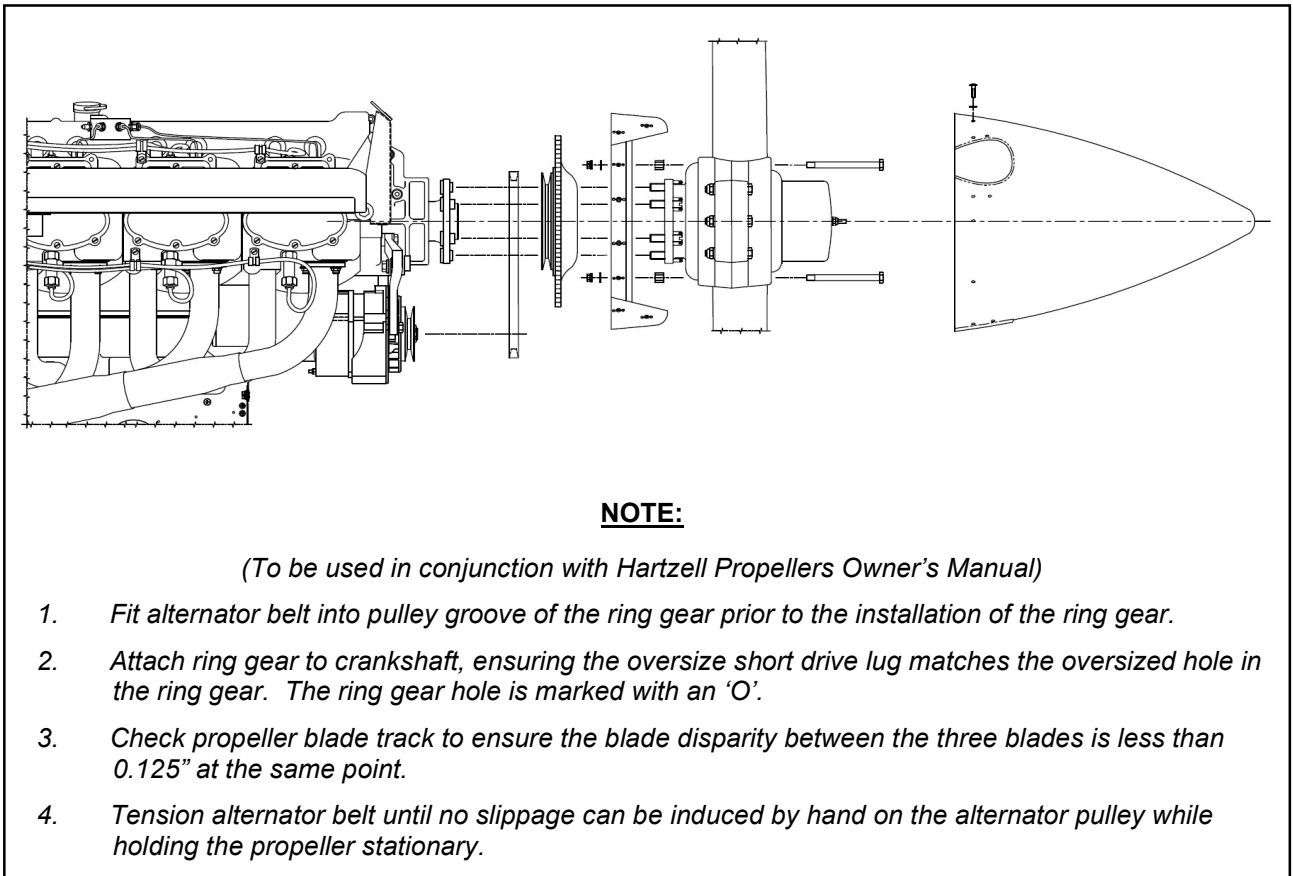

Figure 2
6. Install three blade propeller in accordance with the Hartzell Propellers Owner's Manual (Manual No. 115N, Section 3) at latest revision and illustration in figure 2.